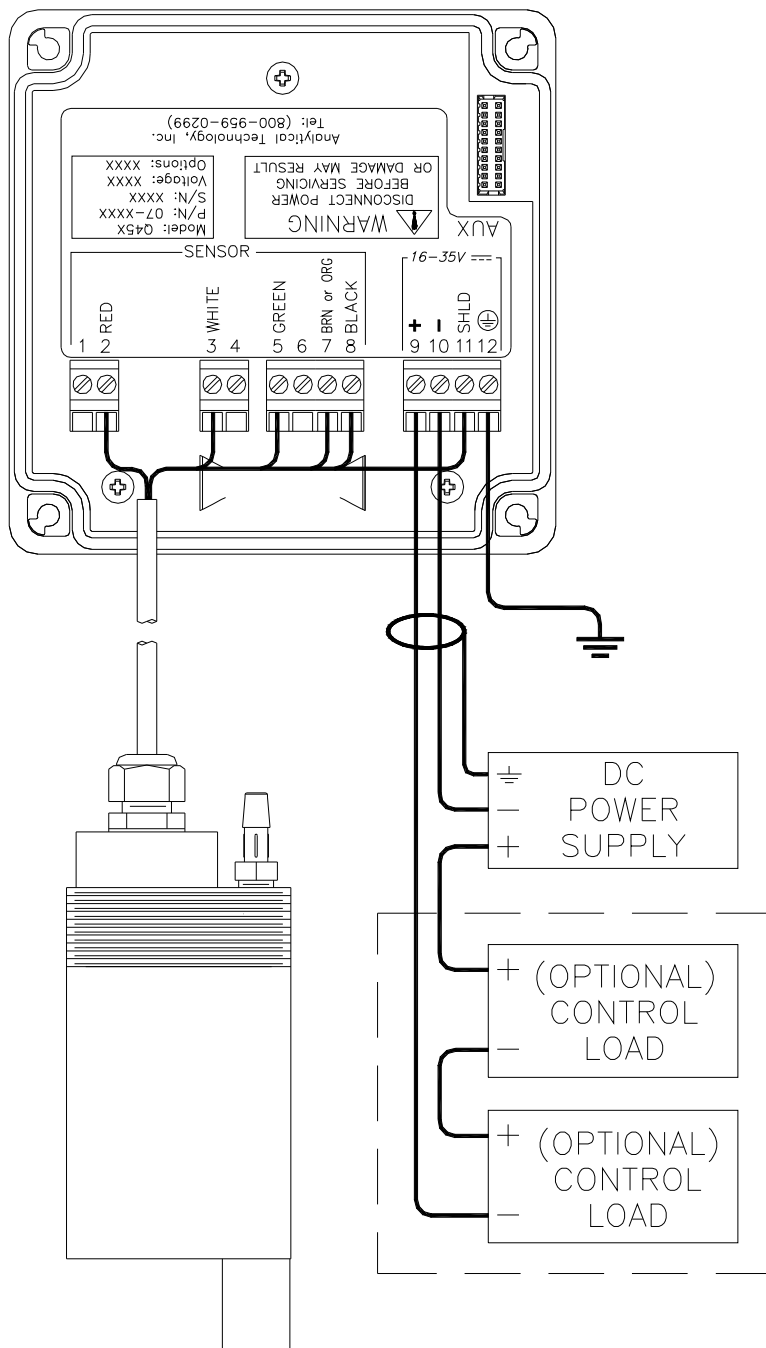

Figure 9 - Loop Power Sensor Connections
1. Use wiring practices that conform to national, state and local electrical codes. For proper safety as well as stable measuring performance, it is important that the earth ground connection be made to a solid ground point from terminal 12 (see Figure 9).
In the two-wire configuration, a separate DC power supply must be used to power the instrument. The exact connection of this power supply is dependent on the control system into which the instrument will connect. See Figure 9 for further details. Any twisted pair shielded cable can be used for connection to the power supply. Route signal cable away from AC power lines, adjustable frequency drives, motors, or other noisy electrical signal lines. Do not run sensor or signal cables in conduit that contains AC power lines or motor leads.